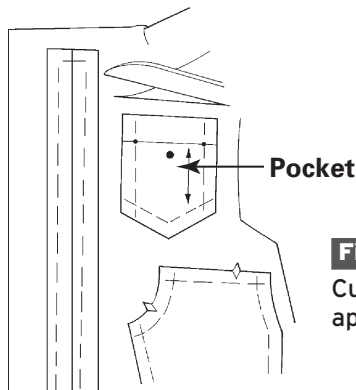

Fig. 6-1
1. Cut apart the pattern pieces you need. To avoid accidentally trimming away the cutting lines, leave some extra paper outside the cutting lines on all pieces. (Fig. 6-1)